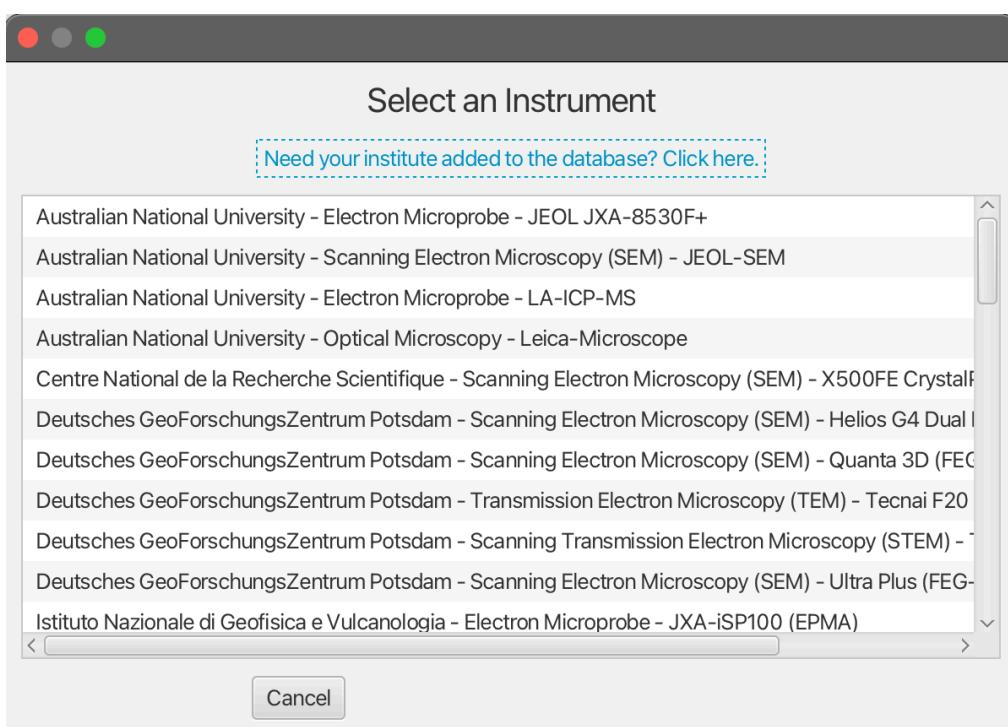

Figure 2: Screenshot of the **StraboMicro Select Instrument** modal with the PI request link.
1. During the 'Add New Sample' upload process within StraboMicro, a link to add a new institution to the catalog can be found in the 'Select Instrument' modal (Figure 2). Clicking the link generates an email request – see Section 5.1.3 for details.